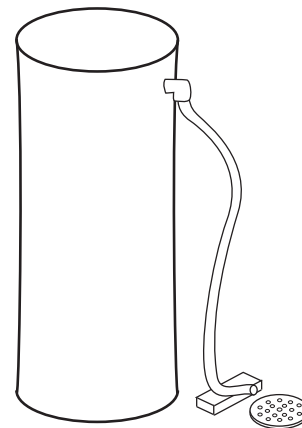

Figure 10 Brine Tank Drain
2. Insert the overflow fitting (not supplied) into the tank and tighten with the plastic thumb nut and gasket as illustrated in Figure 10.
**Note:** Do not elevate the overflow line higher than 3 inches (7.6 cm) below the bottom of the overflow fitting. Do not tie into the drain line of the control unit. The overflow line must be a direct, separate line from the overflow fitting to the drain, sewer, or tub. Allow an air gap as in the drain line connection, Figure 10.